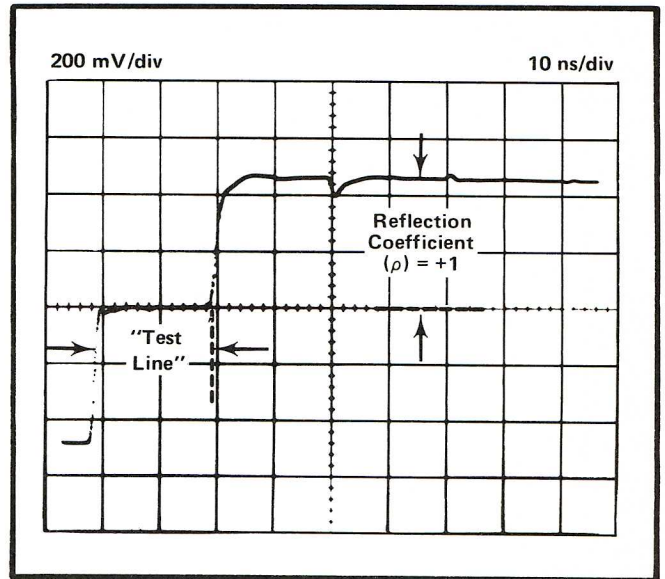

Fig. 2-3. Display with unterminated Test Line.
14. Add a short length of 50 Ω coaxial cable to the tee connector. (Example uses two 42 inch coaxial cables for a total of about 84 inches in length.) See Fig. 2-3. The open line shows a reflection coefficient (rho) of about +1.